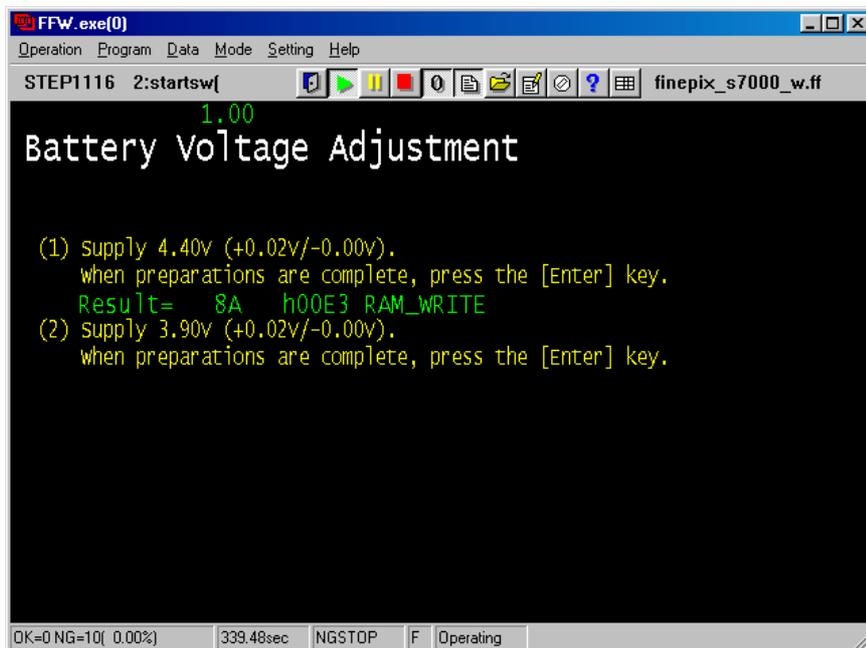

Fig.32
---> The [Battery Voltage Setting Screen 3.90V (Fig.32)] appears.